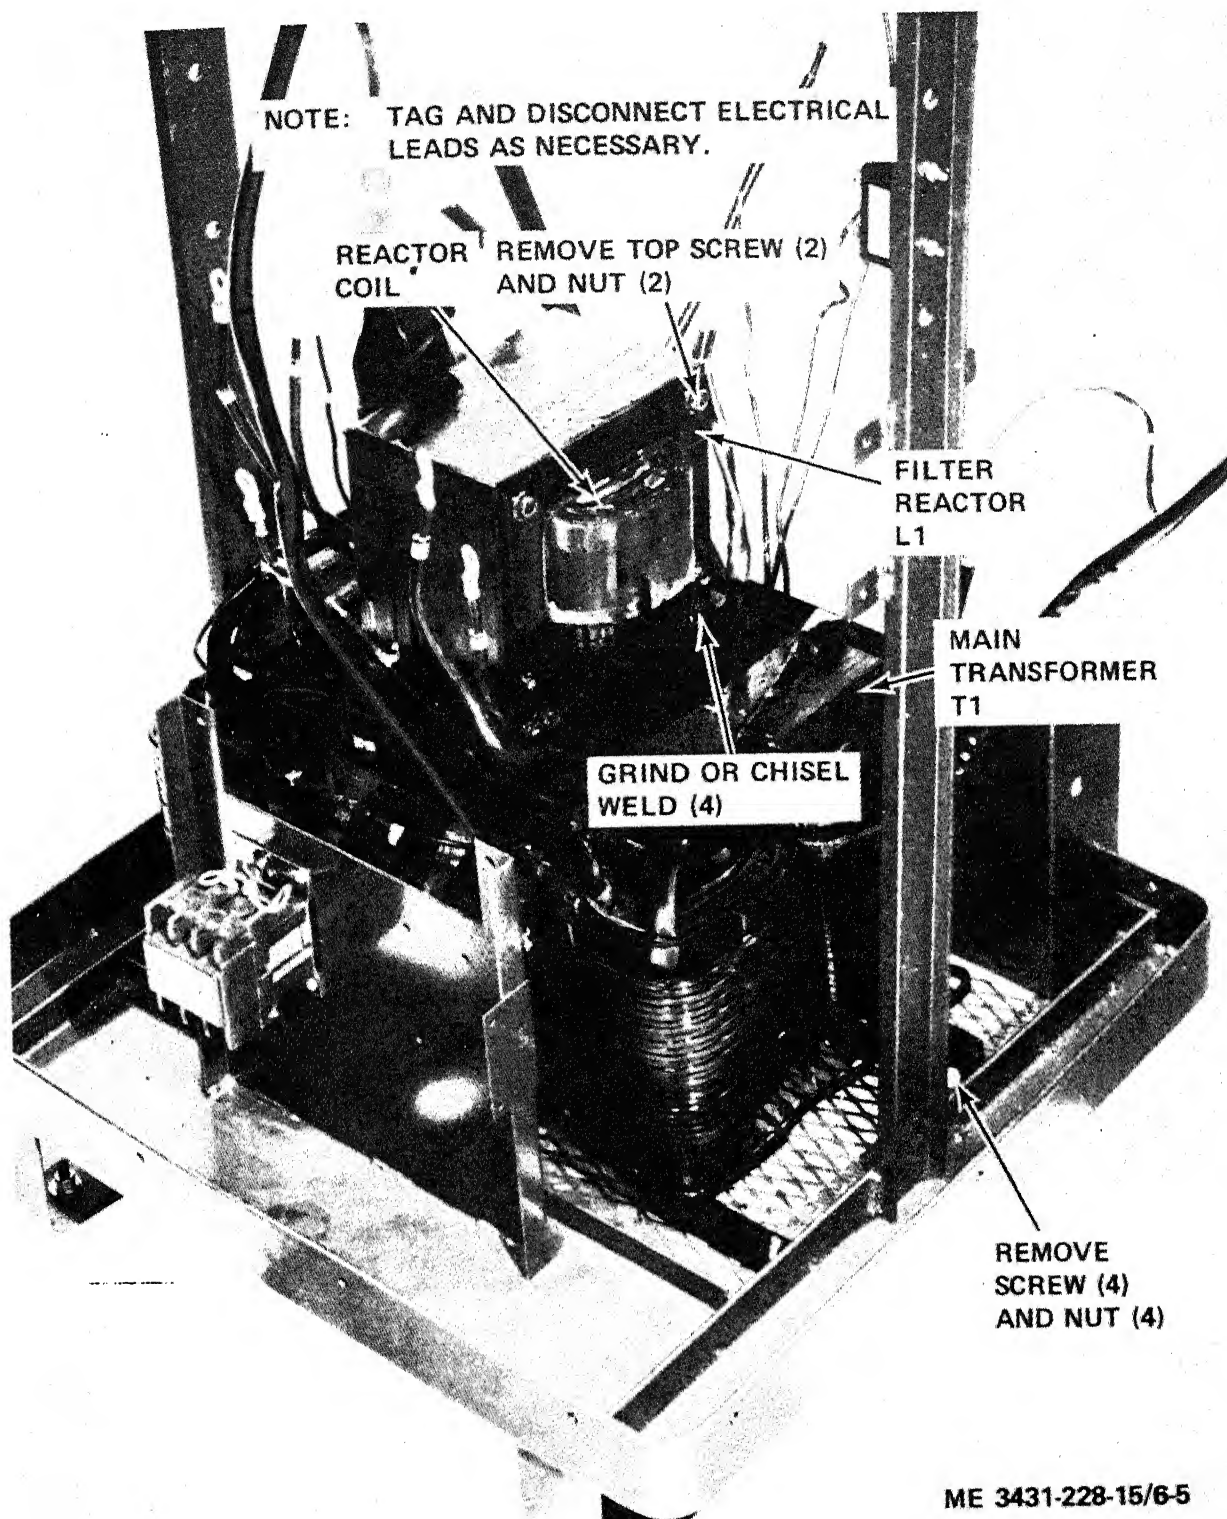

Figure 6-5. Main transformer T1 and filter reactor L1, removal and installation.
- (10) Refer to figure 6-5 and use proper material handling equipment to remove the main transformer from the base.
- (1) Refer to figure 6-5 and install the main transformer on the base assembly.
- (2) Install filter reactor L1 (para 6-21).
- (3) Install overload relay K7 and control transformer T2 (para 6-18).
- (4) Install tesla coil (para 6-20).
- (5) Install power rectifier assembly (para 6-26).
- (6) Install front control panel (para 6-13).
- (7) Install fan motor and guard assembly (para 3-36).
- (8) Install top and housing (para 3-20).
- (9) Install the timer and high frequency drawer (para 3-19).
- (1) Disconnect ac power from the welding machine.
- (2) Remove timer and high frequency drawer (para 3-19).
- (3) Remove top and housing from the welding machine (para 3-20).
- (4) Remove the power rectifier assembly (para 6-26).
- (5) Refer to figure 6-5 and remove the filter reactor or filter reactor coil.
(1) Refer to figure 6-5 and install the coil on the core or install the filter reactor on main transformer T1.
(2) Install the power rectifier assembly (para 6-26).